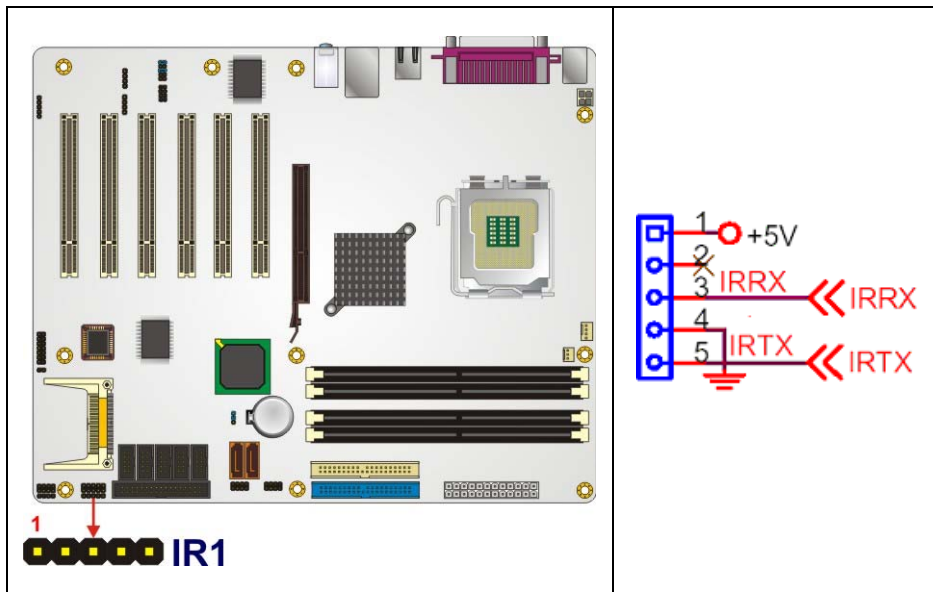

Figure 4-15: Infrared Connector Pinout Locations
- CN Location:** See **Figure 4-15**